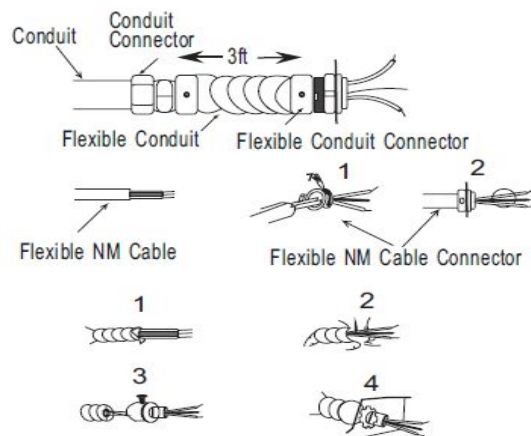

Figure 6-Connectors, cable, and hardware used to wire the heater
2. Attach the cable connectors to the unit (See **Figure 6**) and slide the 10-gauge wire through the cable connector.
NOTE: All wiring must be accordance to national and local electrical codes in the United States. For certain applications conduit may be required See Figure 6. Check local electrical codes. If you run the wiring in conduit and wish to be able to turn the heater be sure to purchase enough flexible conduit to allow the heater to be turned.